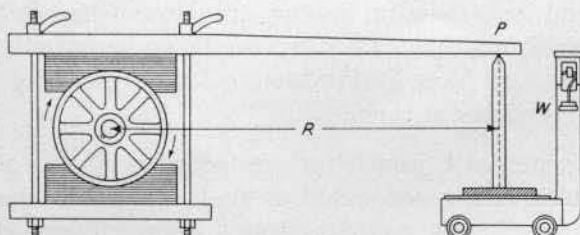

FIG. 83—The elements of a Prony brake.
The simplest form of device for measurement of brake horsepower is the Prony brake, illustrated in Fig. 83.
A simple example of the details of calculating brake horsepower may be helpful. First, to find horsepower, it is necessary to determine the number of foot-pounds per minute being developed. Using the definition of horsepower previously given, foot-pounds per minute divided by 33,000 equals horsepower. With the Prony brake, the weight reading in pounds on the scale arm is observed and recorded, after making a correcting deduction for the weight of the arm. To determine "feet per minute" it is then necessary to calculate how far point "P" (Fig. 83), where the scale is attached, would travel in one minute if it were free to rotate. Since the distance in feet travelled in one revolution is the circumference of a circle whose radius is R feet, or  $2\pi R$ , this distance multiplied by the counted revolutions per minute will give the feet per minute. Hence,  $\text{h.p.} = \frac{2\pi R \times \text{r.p.m.} \times W}{33,000}$ , with W the net weight reading of the scale. As a short cut to this calculation, the brake arm (R in the formula) can be made 5.25 feet in length. The circumference of the presumed circle of travel will then be 33 feet, which when divided by 33,000 gives the simple figure of .001, so all that it is necessary to do in calculating the horsepower in this case is to count the revolutions per minute, mark off three places, and multiply by the corrected weight reading of the scale (W).